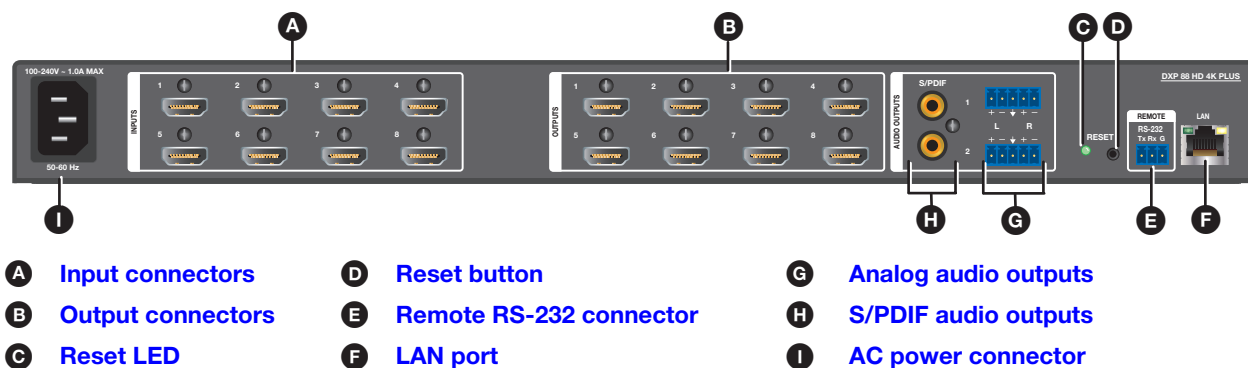

Figure 2. DXP 88 HD 4K PLUS Rear Panel
2. Connect HDMI input devices to the rear panel input connectors (see **figure 2, A**, on the next page).
- Connect a computer, control system, or network switch to the RJ-45 LAN (Ethernet) port (see **figure 2, F**).
Most of the connectors are on the rear panels of the DXP HD 4K PLUS. Figure 2 shows the rear panel of DXP 88 model.
NOTE: Figure 2 shows the DXP 88 HD 4K, with 8 inputs and 8 outputs. The rear panels of the DXP 44, 84, and 88 are identical except for the number of inputs and outputs.
- Reset LED** — While you are holding the **Reset** button, this green LED blinks every 3 seconds to indicate the level of reset that will occur if the button is released at that point (see figure 2, **D**, **Reset button**).